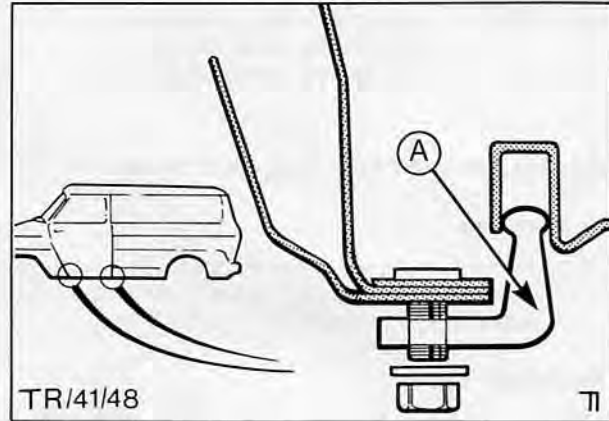

Fig. 32. Sliding cab door lower guides
1. Remove nut and flat washer assemblies securing sliding door lower guides to body and detach guides, Fig. 32.